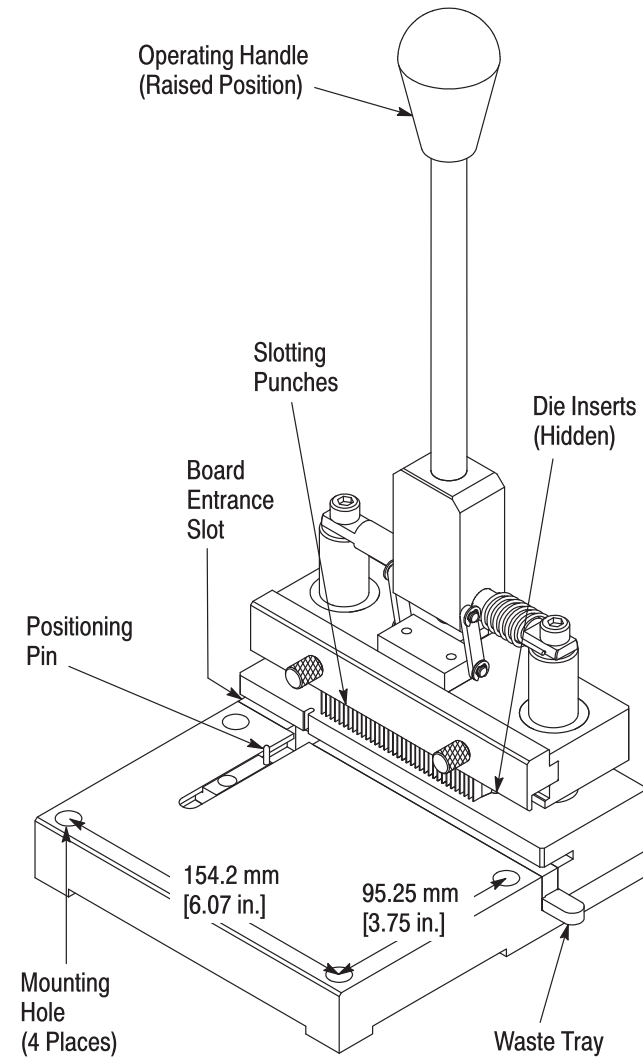

Figure 1
## 2. DESCRIPTION (Figure 1)
Secure the slitting tool to a work bench to ensure stability during operation. See Figure 1 for mounting hole dimensions.
1. Move the operating handle to the raised position (see Figure 1).